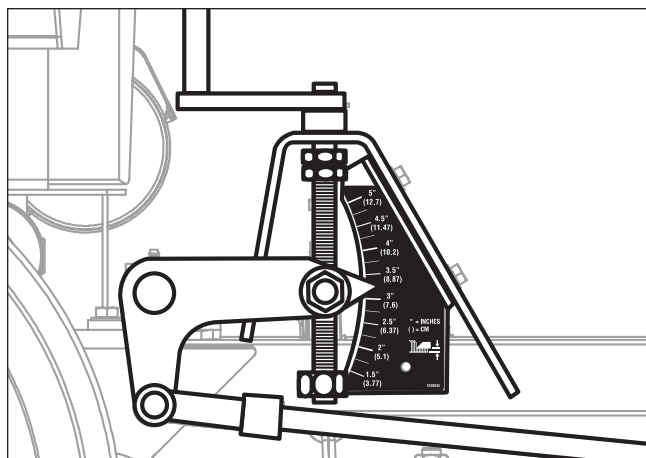

Figure 28. Deck Height Position
2. Crank the deck height adjustment handle so the cutting height indicator points to the 3.25" (8,26 cm). See Figure 28.